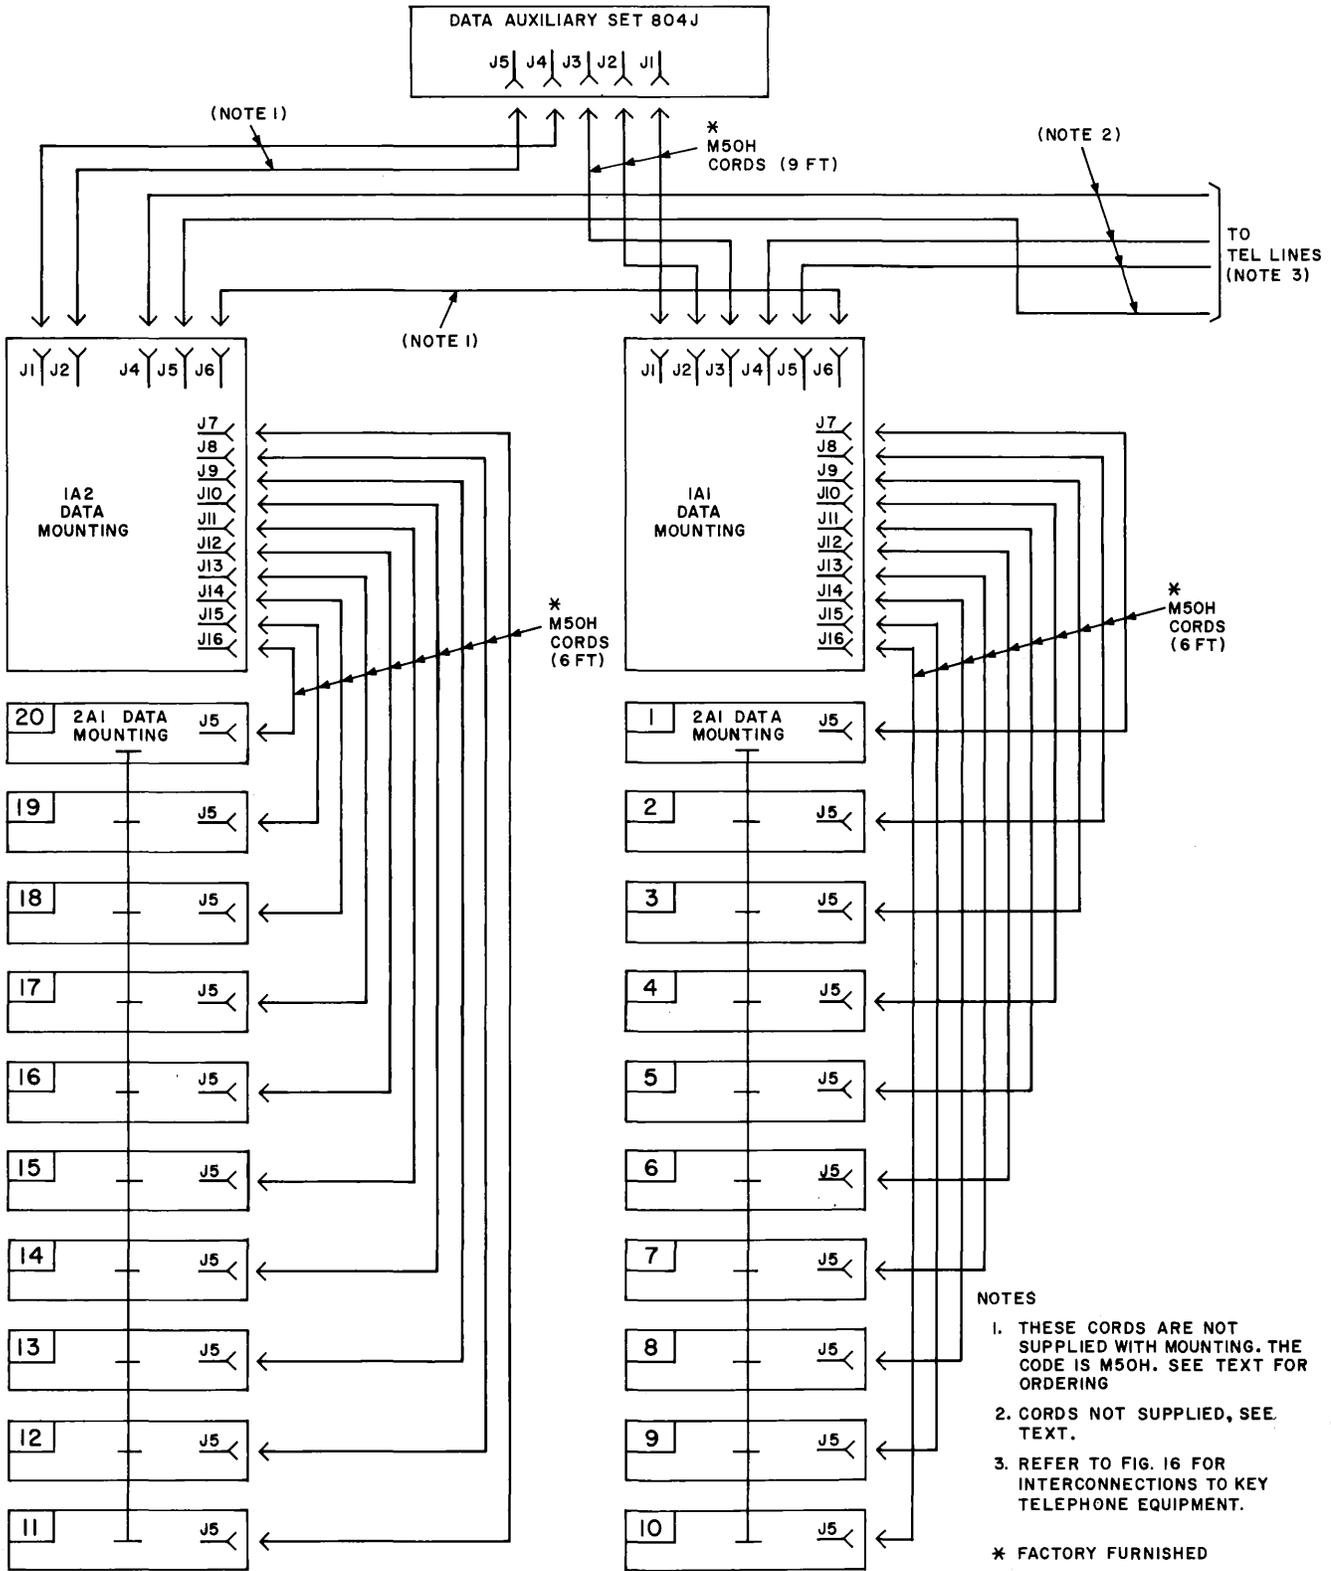

Fig. 15—Interconnections for 103E-Type Data Station—Cabling Diagram
4.03 Interconnections of the 103E-type Data Station should be in accordance with the applicable Fig. 15 or 16.